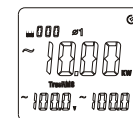

Figure 7-1
- As shown in Figure 7-1, please select “SELECT” key to select the 1st phase location when adopting three-phase four-wire system for load so as to display active power, voltage and current of phase location $\phi 1$.